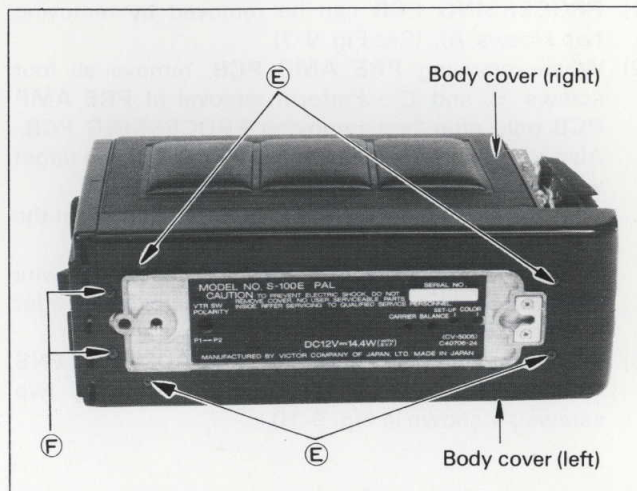

Fig. 9-4 Removal of the body covers
The side cover can be removed by removing all screws (E), shown in Fig. 9-4.
- (2) The front cover can be removed by removing the front two screws (B) of the four shoe fixing screws and further by removing two screws (F), shown in Fig. 9-4. The following parts are accessible by removing the front cover.